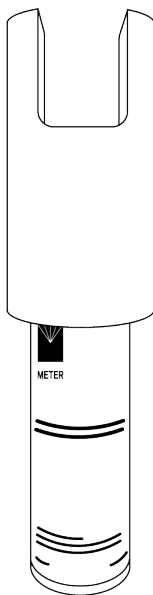

Figure 44 Lower adapter on Glycerin vial
2. Place the base of the glycerin vial into the lower adapter (Figure 44).